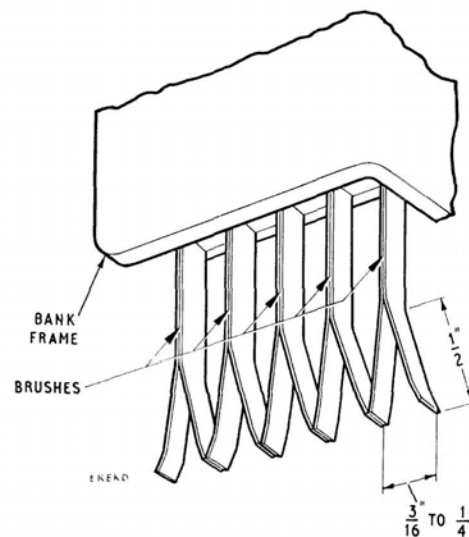

FIG. 4
5. **Adjustment of brushes.**—The two springs of each brush should lie flat against each other from their base to a point $\frac{1}{2}$ in. from the tips. From this point, the tips of the two springs should be set outwards so that there is a space of $\frac{3}{16}$ in. to $\frac{1}{4}$ in. between the tips (see Fig. 4). Each pair of brushes should be at right-angles to their mountings.